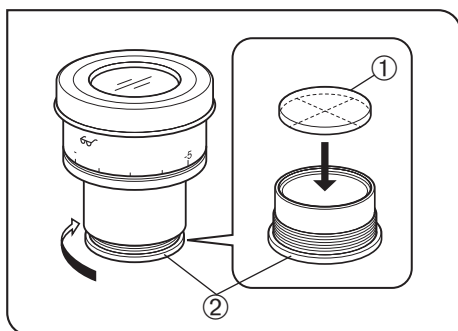

Fig. 36
3 Mounting the Eyepiece Micrometer Disk (Fig. 36)
Following Fig. 36, turn the built-in micrometer-mounting frame ② to the arrow direction to remove it from the eyepiece and place a micrometer disk ① into the mounting frame so that the surface with the model indication faces downward.